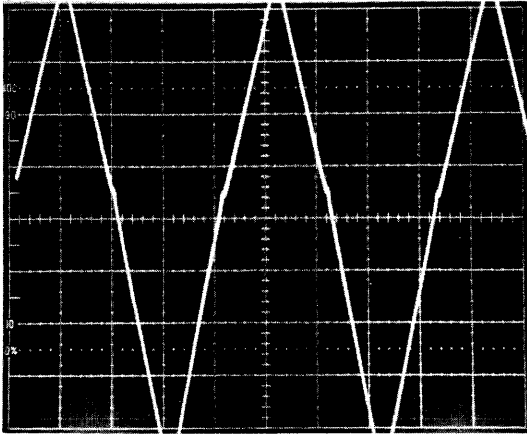
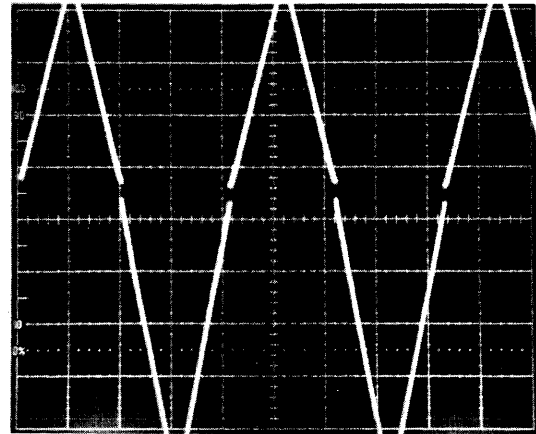

Figure 6.14
Figure 6.15
6.8.9 Adjust G-Pot to increase gain of the positive-going portion of the waveform. See Figure 6.14. Figure 6.15 shows the effect of the G Pot being incorrectly adjusted.